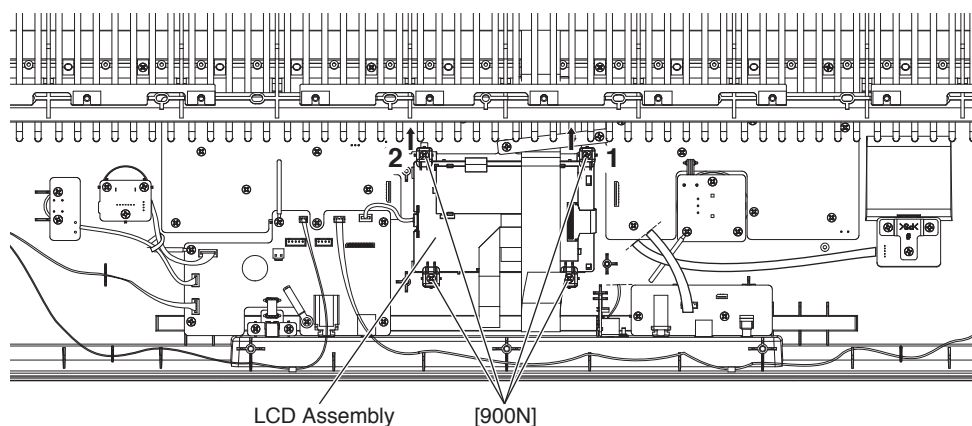

Fig.3
- 3-3 Remove the four (4) screws marked [900N]. The LCD assembly can then be removed. (Fig.3)
* *When the LCD assembly is assembled, tighten the screws marked [900N] in the order of 1, 2 at the condition that pushed it to the keyboard side. (Fig.3)*